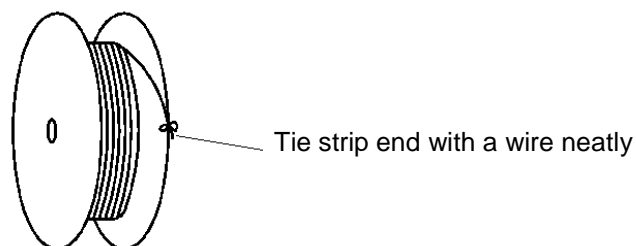

Fig.5
- (3) Avoid storing the terminal reel in a moist or dusty place. Stock the reel in a comparatively dry and clean place (5~35°C, 45~85%RH) away from direct sunlight.
- (4) When removing the terminal reel from the machine, fasten the end of terminal strip onto the edge of the reel with use of proper string or wire. (See Fig.5)